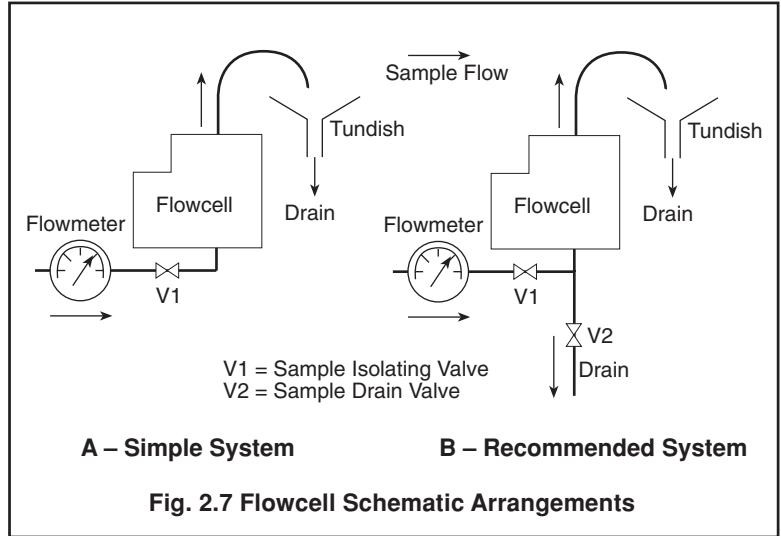

Fig. 2.7 Flowcell Schematic Arrangements
2.3.2 System Design Options – Fig. 2.7